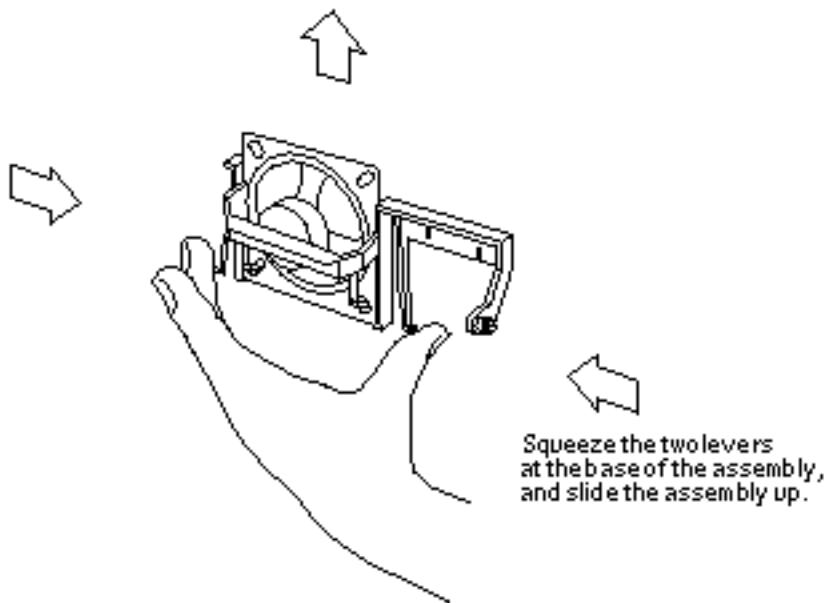

Figure 8-2 Removing and Replacing the Speaker/Power LED Assembly
3. **Squeeze the speaker assembly where indicated in Figure 8-2 and slide it up and out of the system unit.**
2. Squeeze the replacement speaker assembly where indicated in Figure 8-2 and slide it down into its channel guides until it snaps into place.